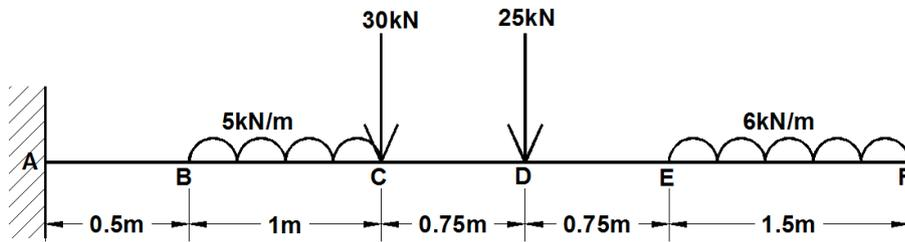

Fig. 6
- (c) Draw Shear Force and Bending Moment diagram for the beam shown in fig. 6 **07**